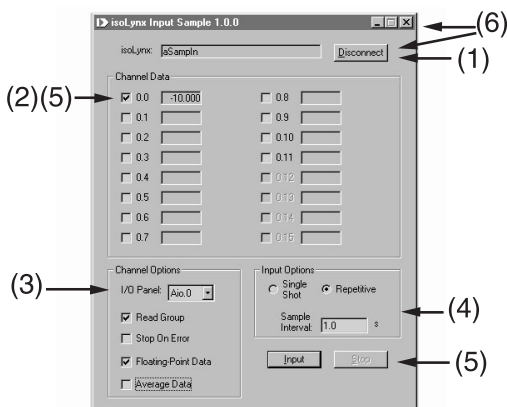

Figure 1.3
Next locate and run the Input sample program Input.exe. Input will display a dialog box similar to Figure 1.3. Figure 1.3 shows the Input Sample dialog box as it appears after execution, so some information and labels may have changed from the initial states.
(4) In the Input Options section, there are three choices: Single Shot, Repetitive and Sample Interval. For a dynamic display, choose Repetitive. Sample Interval can range from 0.05 to 65.50 seconds.
(5) Clicking on the **Input** button will start data acquisition. Observe either the signal you have connected or a random noise signal from the open analog input as a varying decimal number next to the configured channel. The example in Figure 1.3 shows data for panel 0, channel 0. Click on the **Stop** button to stop data acquisition.
(6) Click on **Disconnect**, then **X** to end this demo.